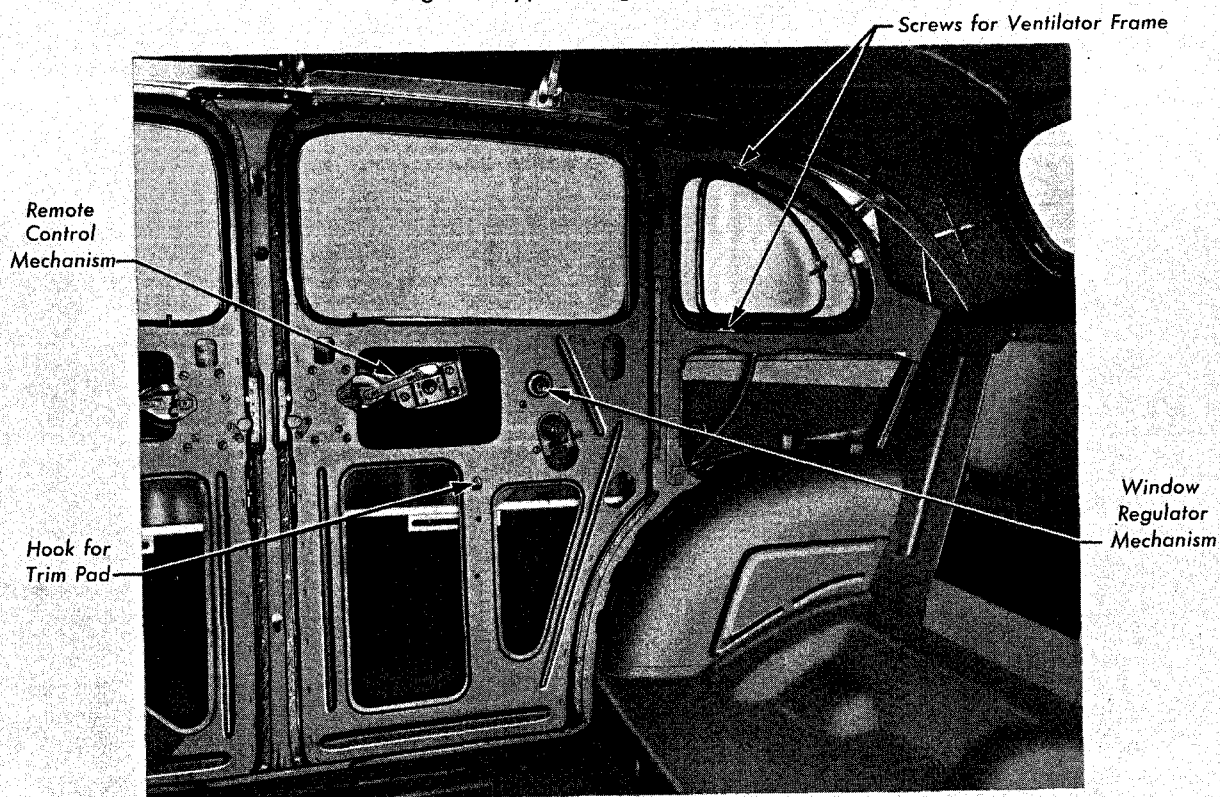

Fig. 15 Typical Right Rear Door and Quarter
2. Remove screws holding ventilator frame in window opening. (See Plate 5, Fig. 15).